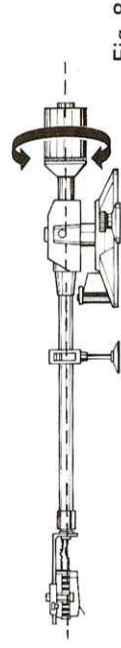

Fig. 8
2. Carefully release the tone arm from its rest and balance the tone arm horizontally by turning the counter weight clockwise or counter-clockwise (Fig. 8).